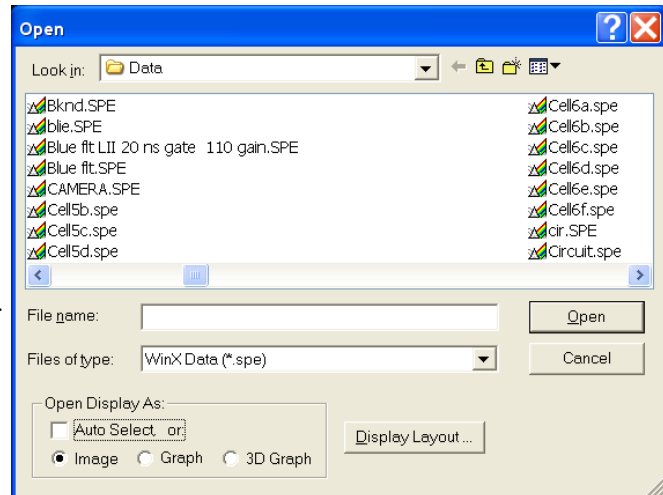

Figure 92. Open dialog
- From the **File** menu, select **Open**. The **Open** dialog (Figure 92) allows you to select the image to be opened. The **Look-In** field provides a browser function so you can easily find the directory where the images. By default, the data directory is a subdirectory of the directory where WinSpec/32 was installed. Subdirectory names and the filenames of all files of the specified type (the WinSpec/32 data type is *.spe) in the current directory are listed in the box below the directory name. The WinSpec/32 data type is WinXData (*.spe).